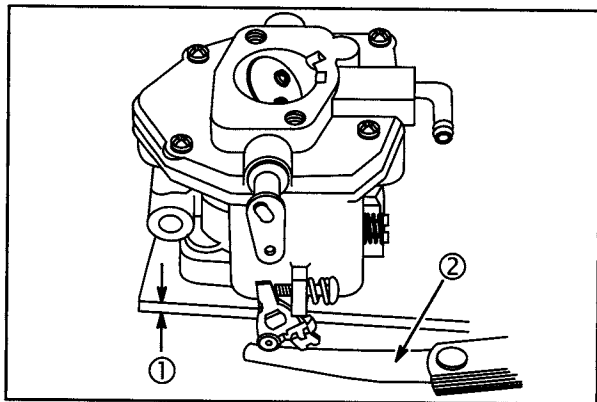

Fig. 76
1. Lay carburetor on 1/4" (6.35 mm) raised flat surface (1). Use a feeler gauge (2) to check throttle and choke shaft clearance as shown in **Fig. 76**.